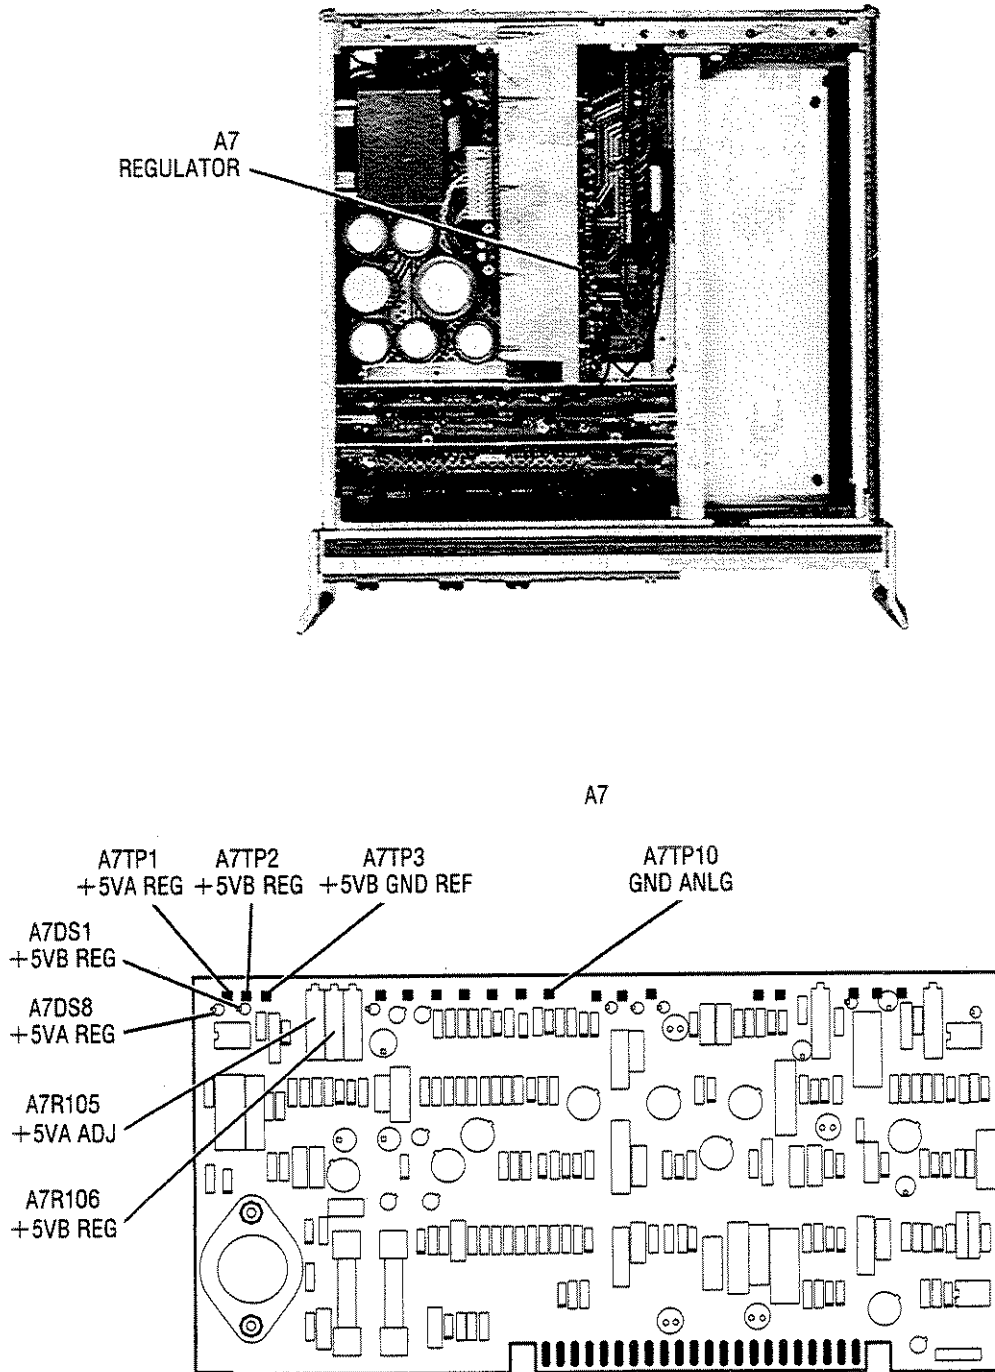

Figure 5-5. Location of +5VA, and +5VB Power Supply Adjustments
5. The DVM should indicate $+5.11 \pm 0.04$ VDC. If it does not, A7R105 must be adjusted as necessary to achieve the proper voltage. Refer to Figure 5-5 for A7R105 component location.
7. The DVM should indicate 5.33 ± 0.03 Vdc. If it does not, A7R106 must be adjusted as necessary to achieve the proper voltage. Refer to Figure 5-5 for A7R106 component location.